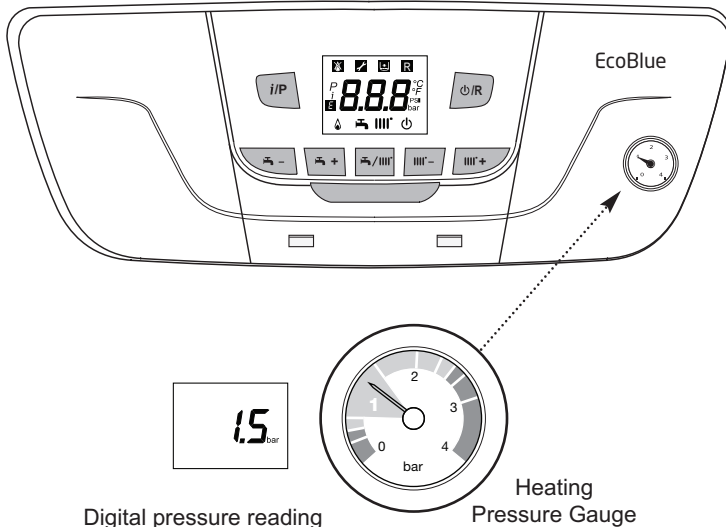

Fig. 38
- Pressurise the system to 1.5 bar (Fig. 38) then close and disconnect the filling loop.